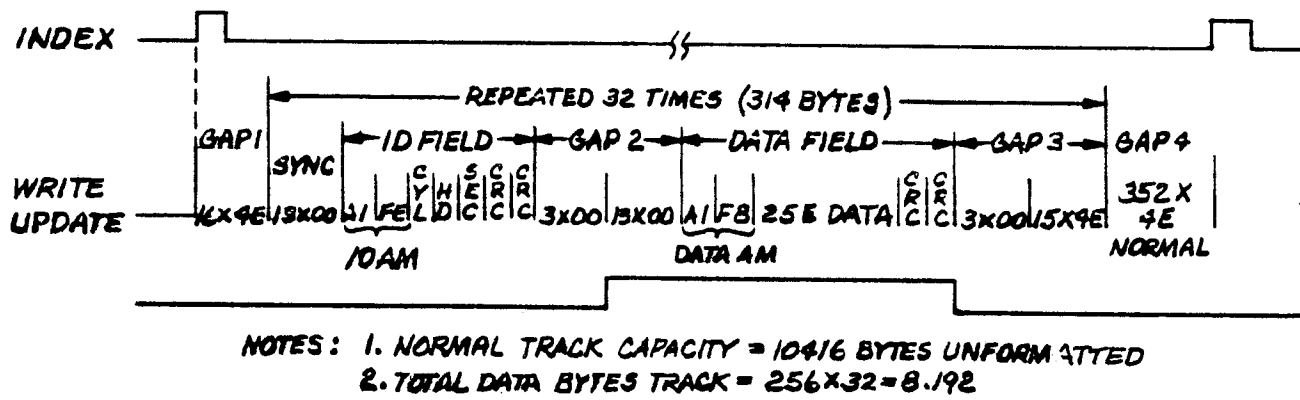

Figure 3-22. ST506/412 Format
The format shown below in figure 3-22, the ST506/412 format, is a format commonly used on lower performance disk drives. Its efficiency of 81% (unformatted capacity/formatted capacity) is typical; however other efficiencies can be obtained by varying the number of sectors per track. The ST506/412 format is a soft sectored format which means that the beginning of each sector is defined by an Address Mark and a prewritten identification (ID) field which contains the physical sector address plus cylinder and head information. The ID field is then followed by a user supplied data field.